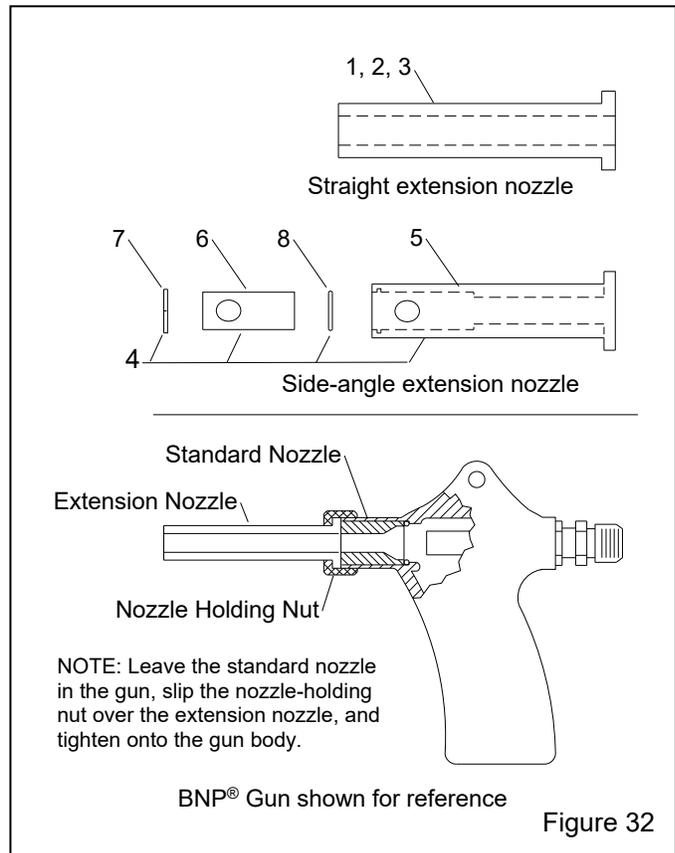

Figure 32
**Extension Nozzles – Figure 32**